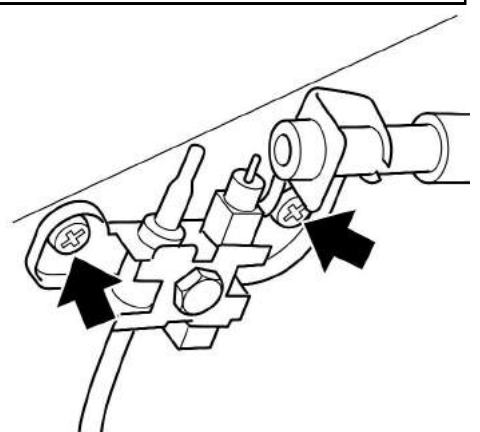

Figure 57. Pilot unit removal
6. Remove the two screws securing the pilot unit (See figure 57).